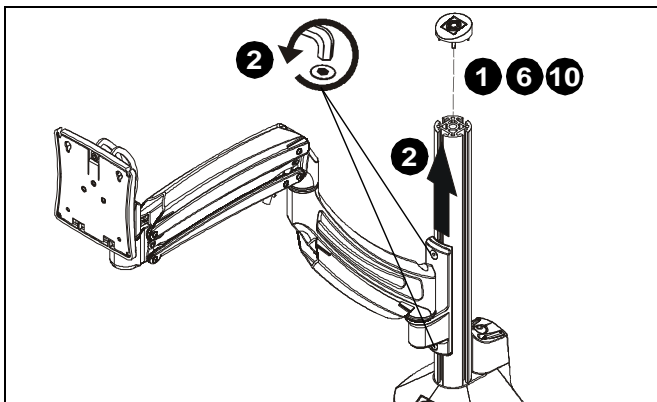

Figure 1
1. Remove cap from K1C column. (See Figure 1)
2. Loosen screws holding arm to column and slide arm off of column. (See Figure 1)
7. Remove cap from K1C column. (See Figure 1)
12. Remove cap from K1C column. (See Figure 1)